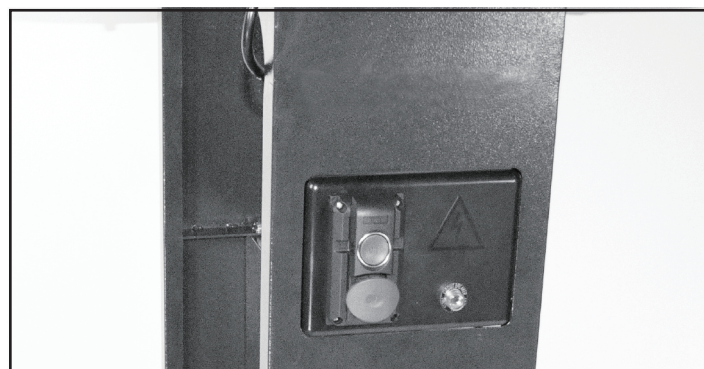

FIG. 16
3. Front of switch will be exposed through the rectangular hole in the Right Support Panel. Example shown Fig. 16.